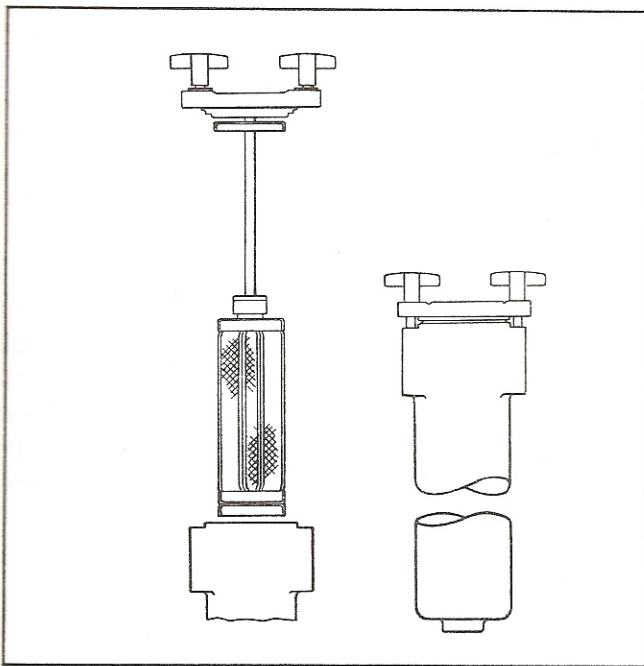

Figure 1. Superflo Filters
C. Filters and Screens (Figure 1): Paper particles, trimmings, undissolved solids, metal chips, "skin" and dirt should be removed from ink to assure quality printing, to prevent faulty operation of viscosity controls, and to avoid damage to cylinders, anilox rollers and doctor blades.